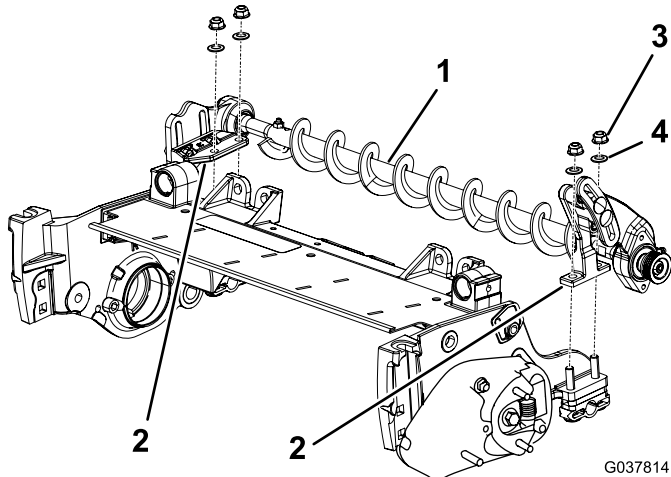

Figure 5
1. Position the roller-brush assembly mounting brackets onto the roller-bracket bolts (Figure 5).